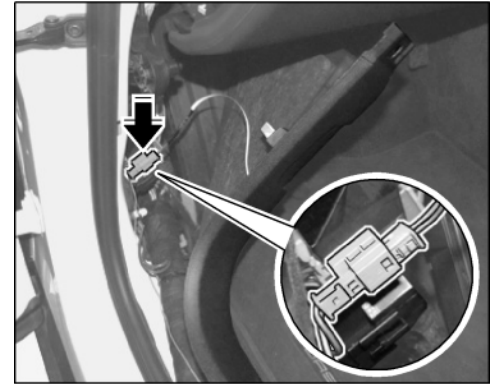

Figure 30
- 5.8.2 Connect plug connection ⇒ *Figure 30 -Arrow-*.